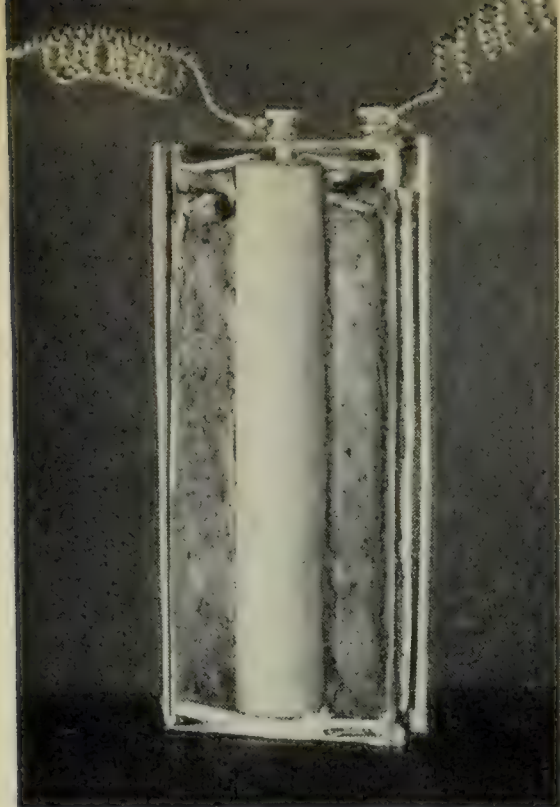

FIG. 381. A cut-open dry cell
*Experiment 84.* HOW IS A DRY CELL CONSTRUCTED? Remove the paper or cardboard covering from your worn-out dry cell. The metal can is made of zinc. Is it smooth and whole, or have the chemicals "eaten" holes in it? Lay the cell on a newspaper. With a hammer and dull chisel or screw-driver cut a slit down one side and around the bottom. Unroll the zinc and take the cell to pieces, layer by layer. Compare it with Figures 381 and 382. What takes the place of copper in this kind of cell?